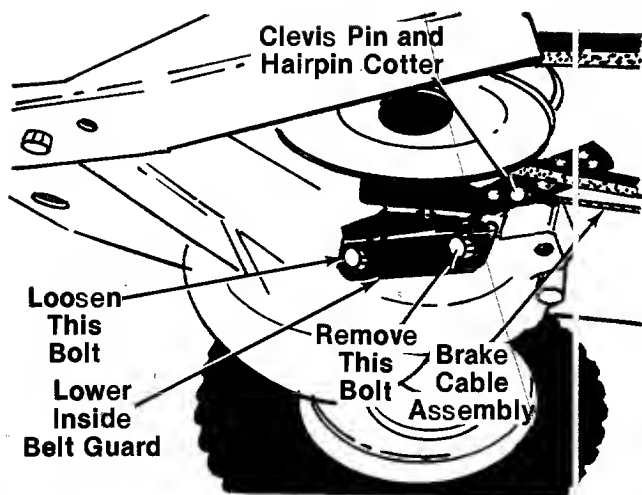

FIGURE 24.
7. Disconnect the brake cable from the lower inside belt guard by removing the hairpin cotter, clevis pin and flat washer. See figure 24.
8. Remove the front hex bolt from the lower inside belt guard as shown in figure 24.